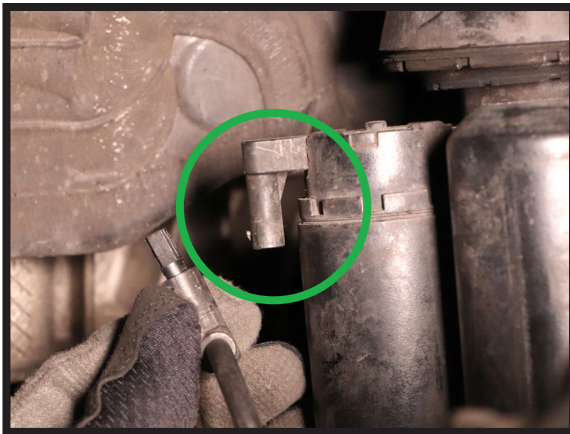

FIGURE 6
6. DISCONNECT THE TWO (2) ELECTRICAL CONNECTORS FROM THE STRUT. (FIGURES 6, 7)